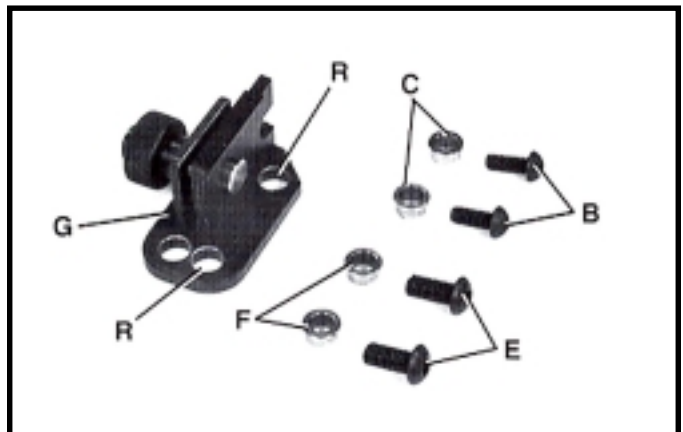
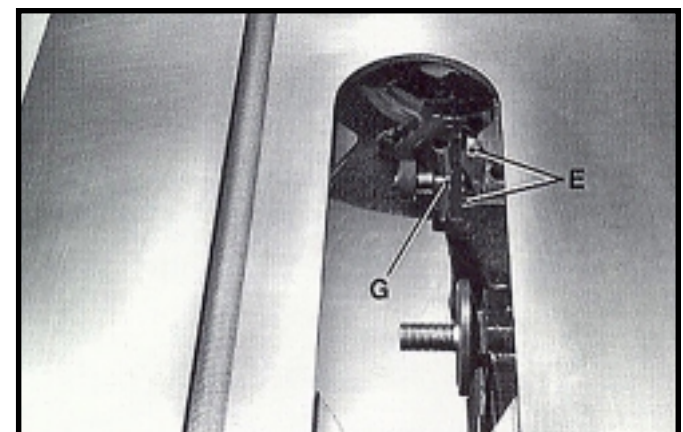
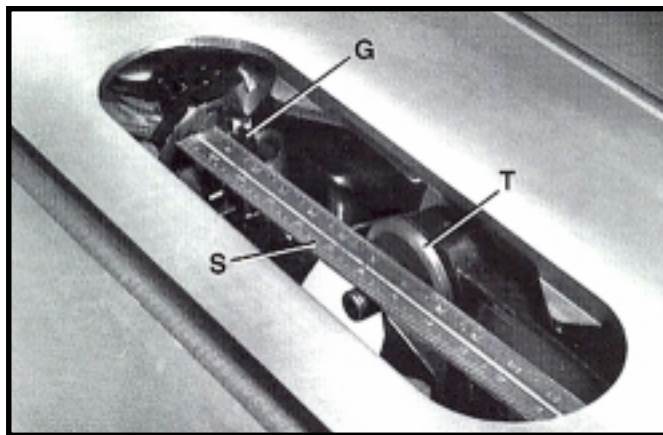

Fig. 17
Fig. 18
Fig. 19
13. Locate two bushings each, (C) and (F) Fig. 17, two 1/4-20 x 5/8" button head screws (B); two 5/16-18 x 5/8" button head screws (E) and splitter mounting bracket assembly (G). **NOTE: Bushings (C) with smaller I.D. hole and two 1/4 x 5/8" long screws (B) are used when mounting the splitter to the Delta 10" tilting arbor saw and the 10" contractors saw. Bushings (F) Fig. 17, with the larger I.D. holes and two 5/16-18 x 5/8" long button head screws (E) are used when mounting the splitter bracket to a 10" Unisaw.**
14. Depending on what saw you are using, insert two bushings (F) Fig. 17, into holes (R) in the splitter mounting bracket.
16. Assemble the splitter mounting bracket (G) Fig. 18, to the inside of rear trunion using two button head screws (E) Figs. 17 and 18, since we are mounting the splitter to a 10" Right tilting Arbor Unisaw. **NOTE: Just snug up button head screws at this time.**
17. Using a straight edge (S) Fig. 19, align the top portion of splitter mounting bracket (G) to saw arbor (T) as shown. Then tighten two screws (E) Fig. 18.